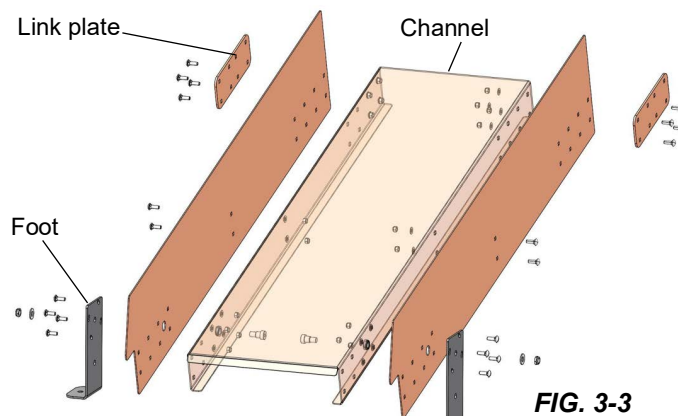

FIG. 3-3
3. Assemble the feet of the lower incline section as shown in FIG. 3-3.